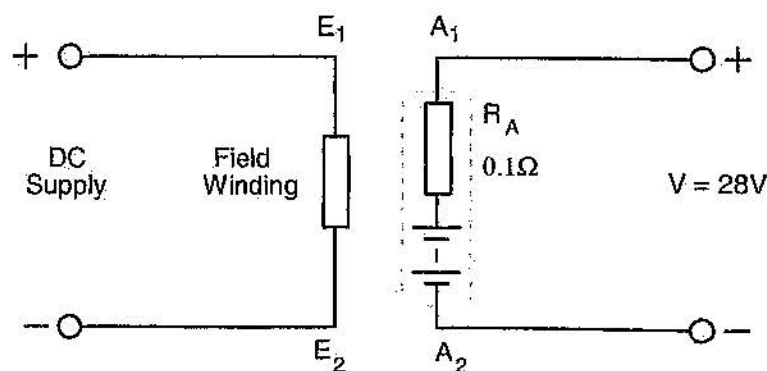

Figure 1
7. The motor shown in figure 1 has a field flux of 0.0125Wb, runs at 250rpm, and has a machine constant of 8. For these conditions, determine the: